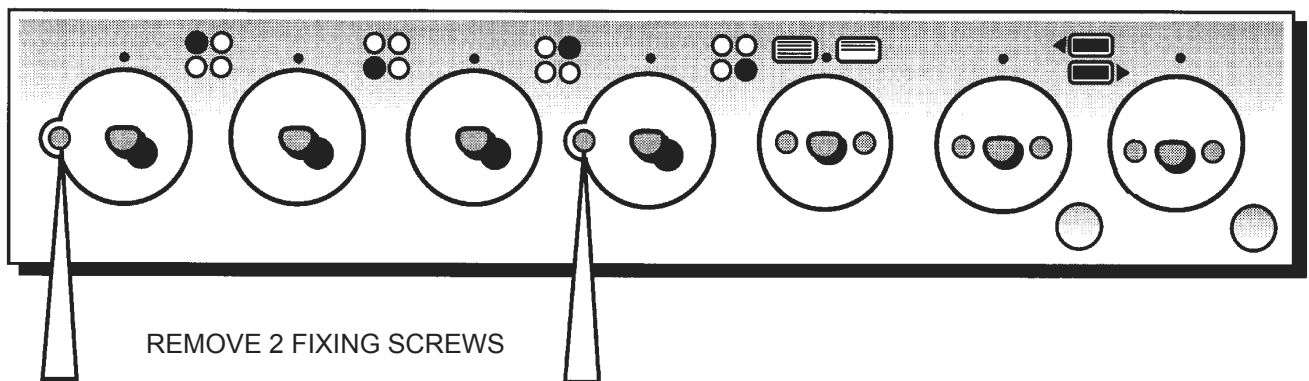

Fig. 10.2
- C. Remove two screws from control panel (one from left hand hole and one from centre hole). (See **Fig. 10.2**).